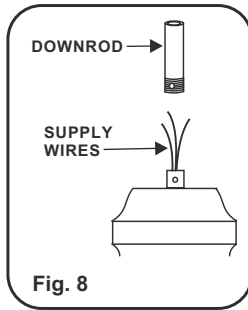

Fig. 8
**Step 4.** Carefully feed fan wires up through the downrod(Fig 8). Thread the rod into the coupling, next line up holes and replace lock pin and hitch pin. Tighten set screws.